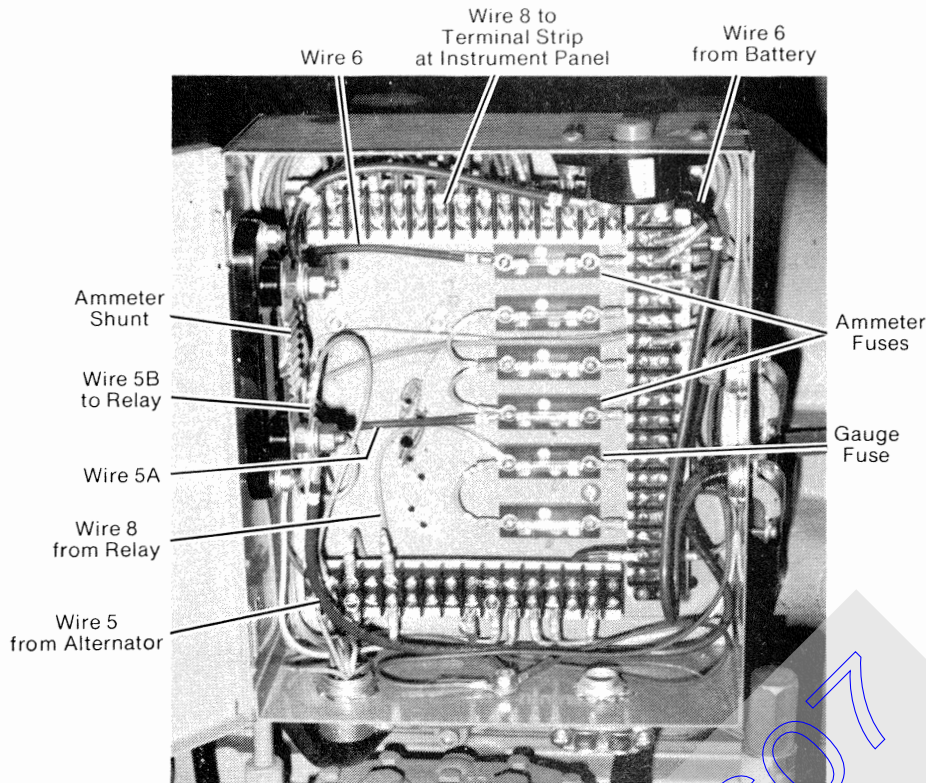

Figure 4 Junction Box on Engine
1. Inspect the gauge fuse in the junction box (see Figure 4). If the fuse is "blown," replace it with a new one. If the fuse is okay, perform step 2.
1. Inspect the ammeter fuses in the junction box (see Figure 4). If either fuse is "blown," replace it with a new one.
4. If a shunt is used (see Figure 4), replace the original shunt with one known to be correct. If normal indications result, replace the original shunt.